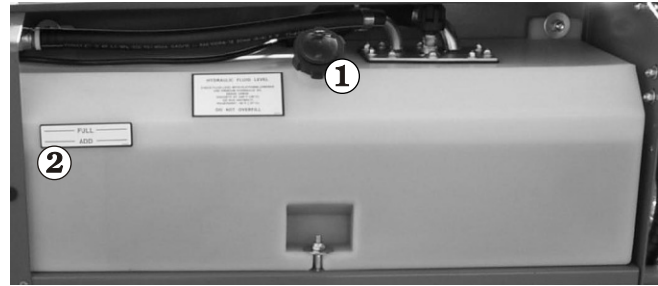

Figure 7.13 - Hydraulic Oil Tank
Check to see that the cap ① is in place and is tight (see Figure 7.13).
Completely lower the platform. The hydraulic oil level should be at the full level according to the gauge ② (see Figure 7.13). If necessary, add hydraulic oil at the Hydraulic oil tank cap. See the Specifications chapter for type and grade of hydraulic oil.